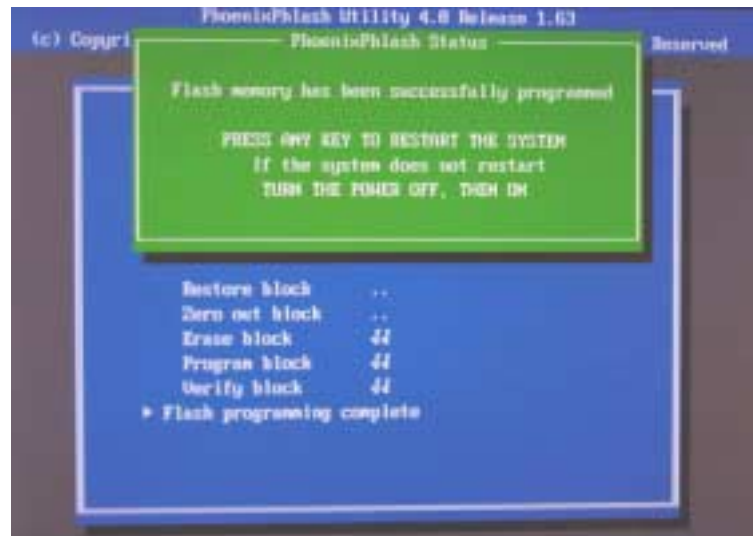

Figure 16-6 Phlash Window
10. Verify message "Phlash memory has been successfully programmed" appears in PhoenixPhlash Status box (see Figure 16-6).